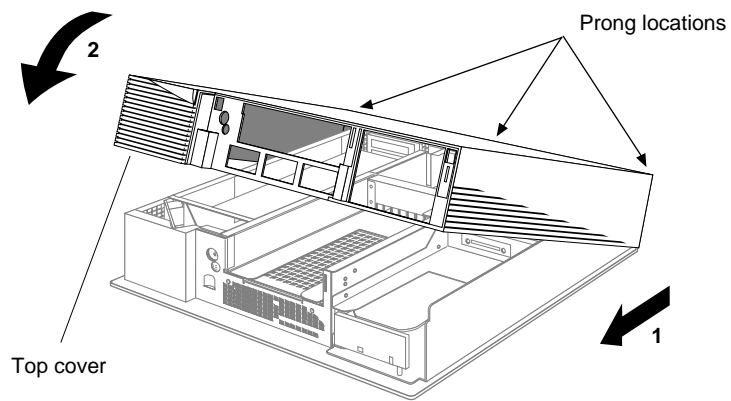

Figure 3-1 Replacing the Top Cover on the Indigo² Chassis
1. Place the prongs on the underside of the cover into the slots under the top ridge of the backplane of the chassis, as shown in Figure 3-1.